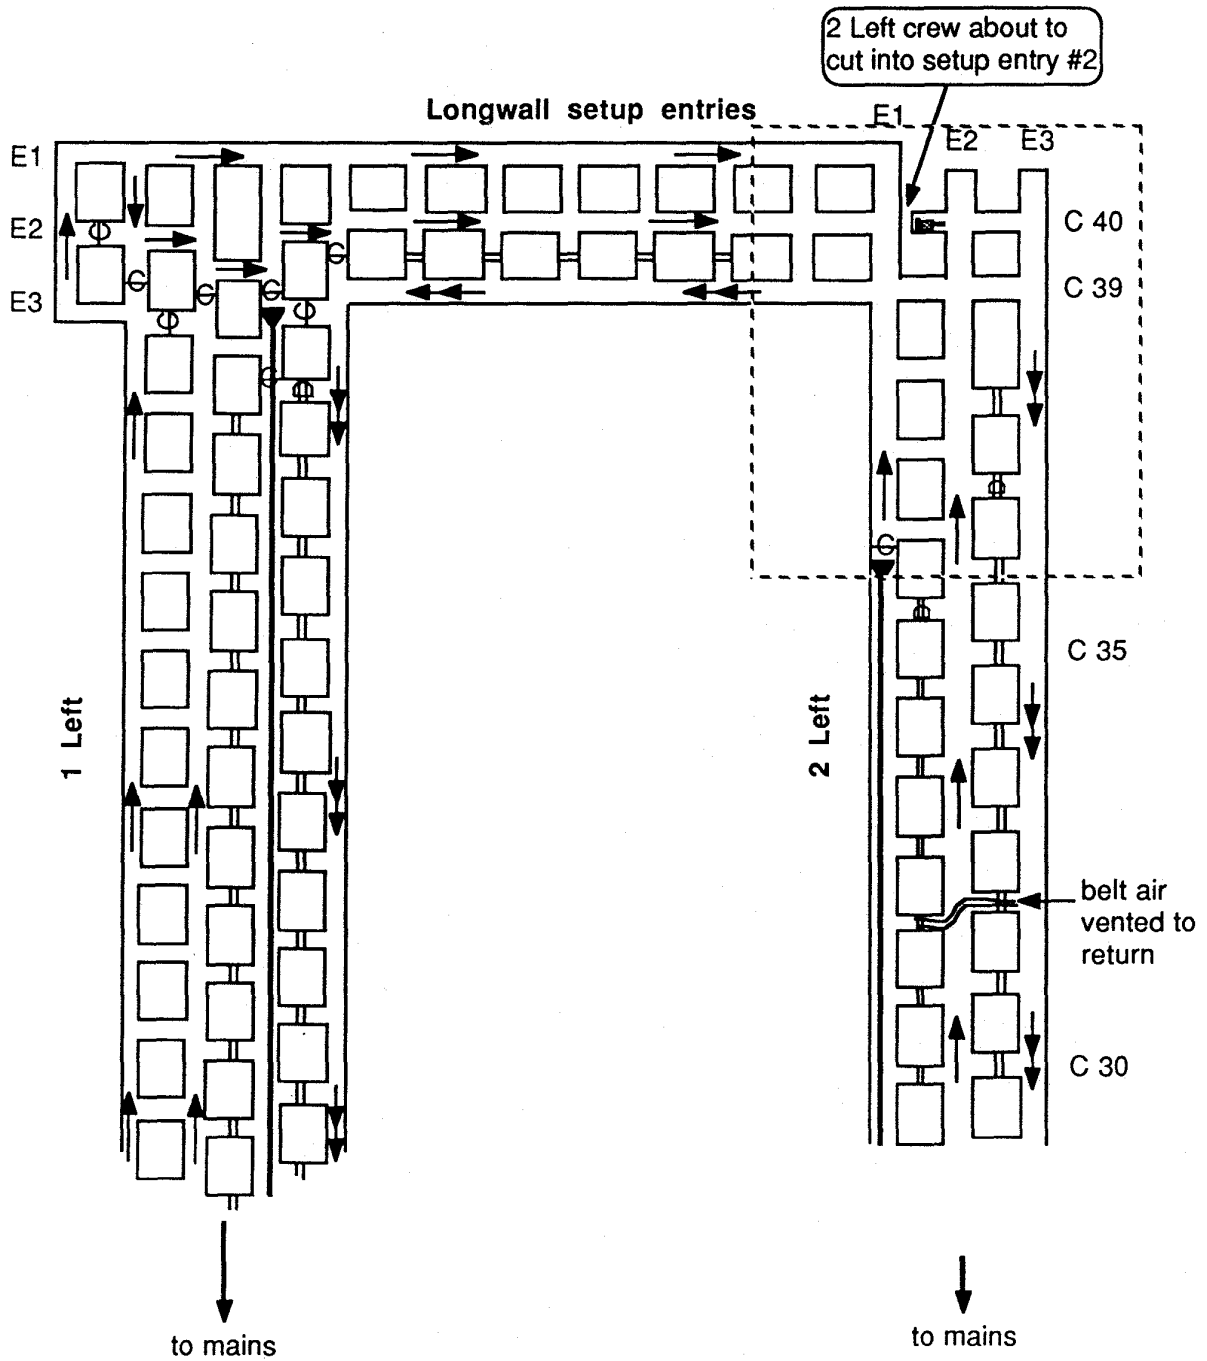

Figure 5A: Sketch a good ventilation arrangement (within the dotted line box)
15. Show the ventilation arrangements you would use, by marking them directly on the map in Figure 5A. Mark the part of the map within the dotted line box. (Write only on the answer sheet.)